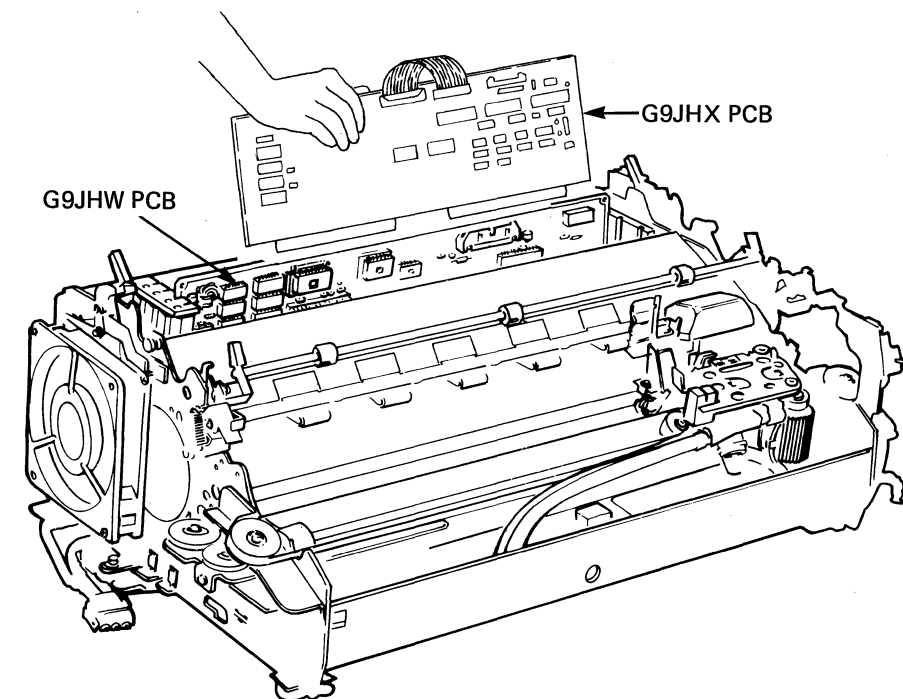

Figure 4-21 G9JHX PCB Installation
- b. Install the new G9JHW PCB in the same slot that the old G9JHW PCB was installed, then install the G9JHX PCB behind it (see Figure 4-21).